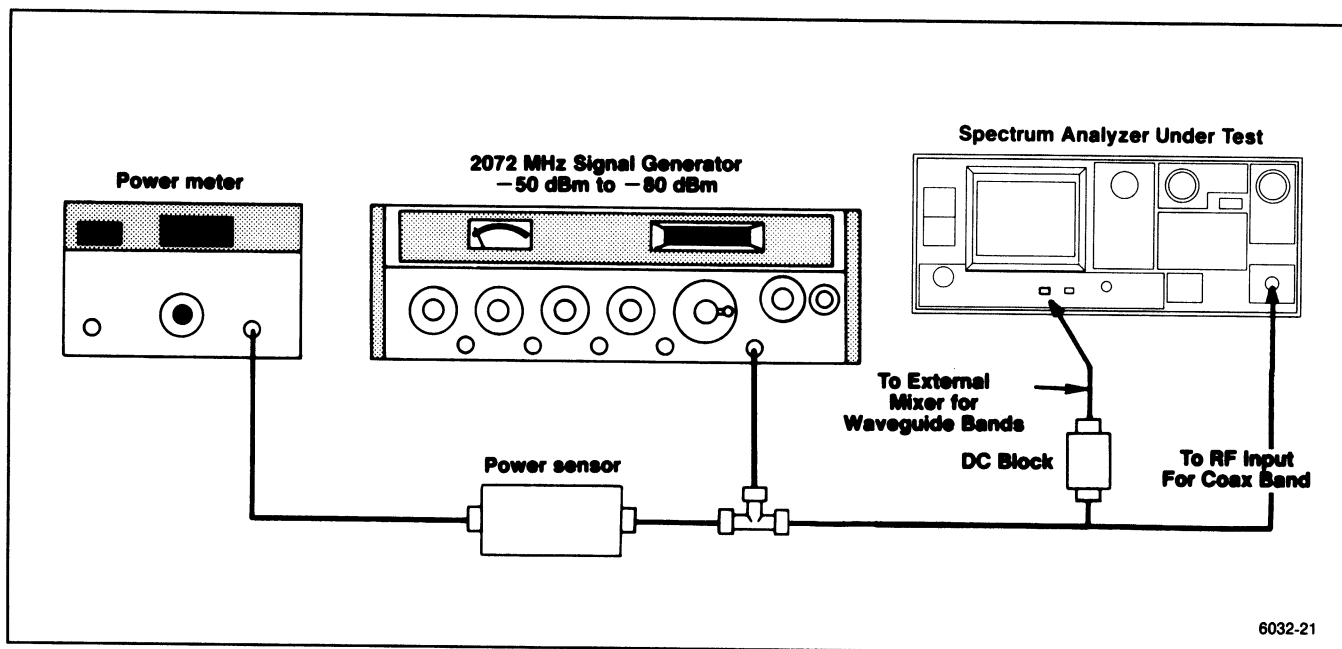

Figure 5-24. Test equipment setup for band leveling adjustment.
c. Connect test equipment as shown in Figure 5-24. Set the Spectrum Analyzer controls as follows:
a. Test equipment setup is shown in Figure 5-24. Apply 2072 MHz at -30 dBm, through a dc-blocking capacitor to the EXT MIXER input. Monitor the input with a power meter to set the power level then add a known 30 dB attenuator so the input level to the EXTERNAL MIXER port is -60 dBm. Set the Spectrum Analyzer controls as follows: